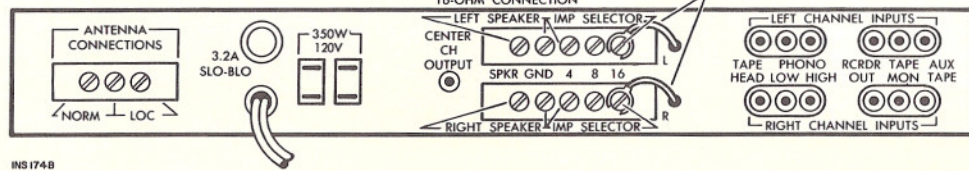

FIGURE 1.
**ONE SPEAKER:** If you are using only one speaker, it should be connected to the LEFT SPKR terminals on the rear panel (marked SPKR and GND). (See Figure 1.) Use ordinary power cord, up to 50 feet in length, for these connections. For longer distances, use heavy-duty wire. The LEFT IMP SELECTOR terminals on the rear panel are used to match the output impedance of the 400 to the impedance of your left-channel loudspeaker (in this case, your only loudspeaker). Connect the upper (L) wire protruding from the rear panel to the appropriately-marked terminal of the LEFT IMP SELECTOR (4, 8, or 16, depending on the impedance of your speaker). *Be sure to turn the Balance control on the front panel fully counterclockwise before turning on your 400.* The Balance control should be kept in the maximum counterclockwise position until a speaker is attached to the RIGHT SPKR output terminals.
**TWO SPEAKERS:** In the normal stereo installation, the two speakers (one for the left channel and one for the right channel) are connected to the LEFT SPKR and RIGHT SPKR terminals. In each case, the terminal marked GND should be connected to the ground or common terminal (marked G, GND, C, COM, etc.) of your loudspeaker. This will assure correct phasing of your loudspeakers, causing them to "push" and "pull" in unison, rather than in opposition. Use ordinary power cord for distances up to 50 feet, heavy-duty power cord for longer distances. Connect the upper (L) wire protruding from the rear panel to the appropriately-marked